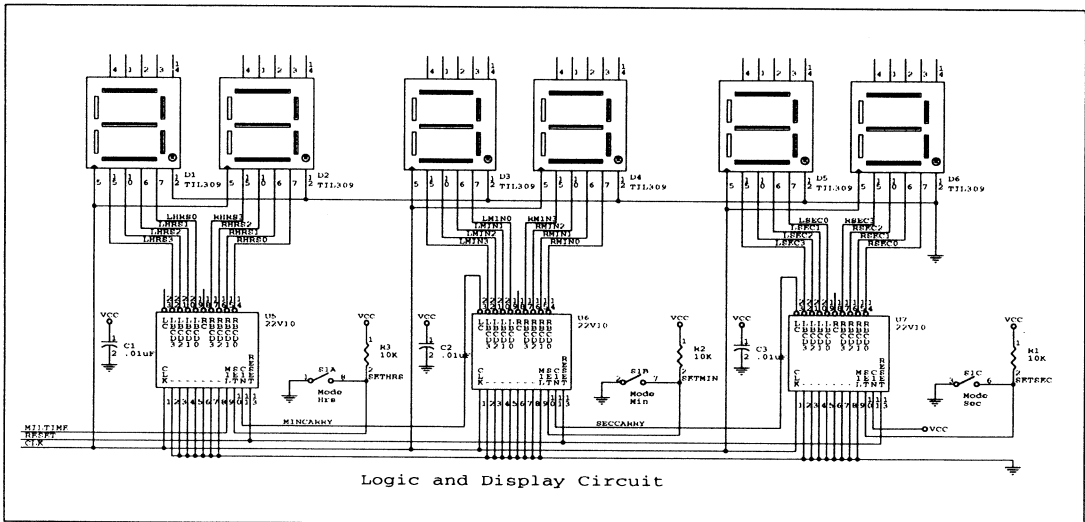

Figure 6-3. The logic and display circuitry.
It's been a while since you had a look at the schematic you're duplicating. Figure 6-3 is another copy of the logic and display circuit schematic. Your worksheet should show parts placed similarly to the figure 6-3.
Figure 6-3 on the next page shows how the clock logic will look once you place the wires to connect the seconds, minutes, and hours circuits together. The following sections describe how to do this. As you follow the steps in each of these sections, refer to the callouts—such as these: ①②③—in each figure. These callouts correspond to the numbered steps in each section.
You have now connected all of the wires in the logic and display portion of the schematic. Select **ZOOM Select 5** to view the entire schematic. It should look like figure 6-3. Note that the clock oscillator circuit and the power regulator circuit on your schematic do not show in figure 6-3.